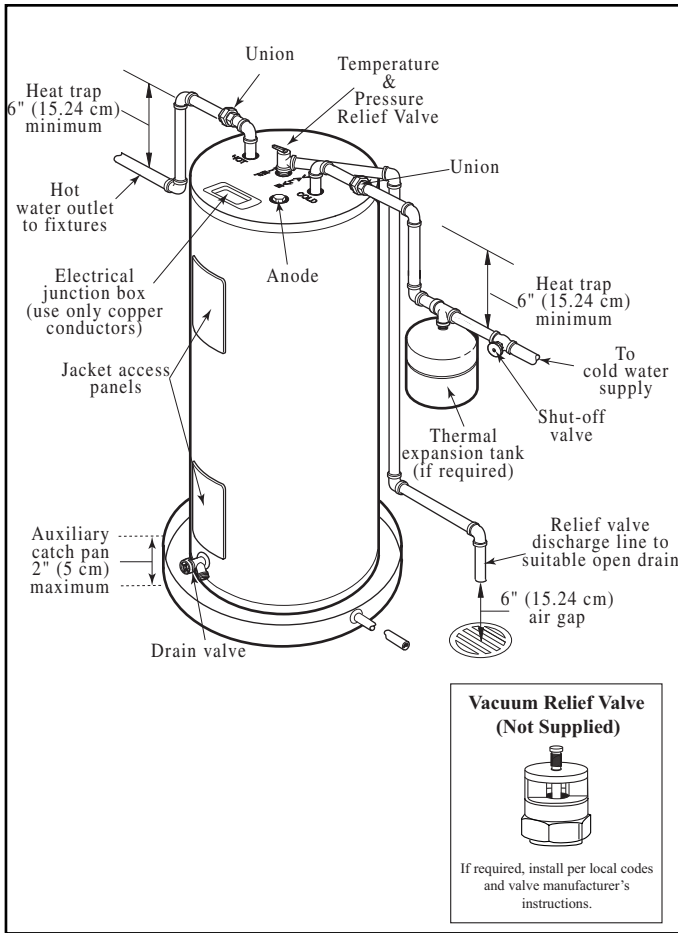

Figure 2. — Typical Installation
The suggested method of controlling thermal expansion is to install an expansion tank in the cold water line between the water heater and the check valve. (refer to Figure 2.) The expansion tank is designed with an air cushion built in that compresses as the system pressure increases, thereby relieving the over pressure condition and eliminating the repeated operation of the relief valve. Other methods of controlling thermal expansion are also available. Contact your installing contractor, water supplier, or plumbing inspector for additional information regarding this subject.
WATER SUPPLY CONNECTIONS — Refer to Fig. 2 for suggested typical installation. The installation of unions or flexible copper connectors is recommended on the hot and cold water connections so that the water heater may be easily disconnected for servicing if necessary. The HOT and COLD water connections are clearly marked and are 3/4" NPT on all models. Install a shut-off valve in the cold water line near the water heater.
- 3. RELIEF VALVE** — A new combination pressure and temperature relief valve, complying with the Standard for Relief Valves and Automatic Gas Shutoff Devices for Hot Water Supply Systems, ANSI Z21.22, must be installed in the opening provided and marked for the purpose on the water heater. (Refer to Fig. 2.) No valve of any type should be installed between the relief valve and the tank. Local codes shall govern the installation of relief valves.